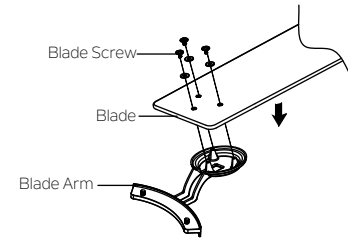

Fig. 17
Step 1. Position the blade over the blade arm with threaded posts showing. Make sure the bottom edge of the blade is fully seated against the blade arm. With a Philips screwdriver, start a blade screw and washer into the blade arm (do not tighten) and repeat for the 2 remaining blade screws and washers. Tighten each screw securely starting with the center screw. Make sure the blade is straight. Repeat steps for the remaining blades. (Fig. 17)